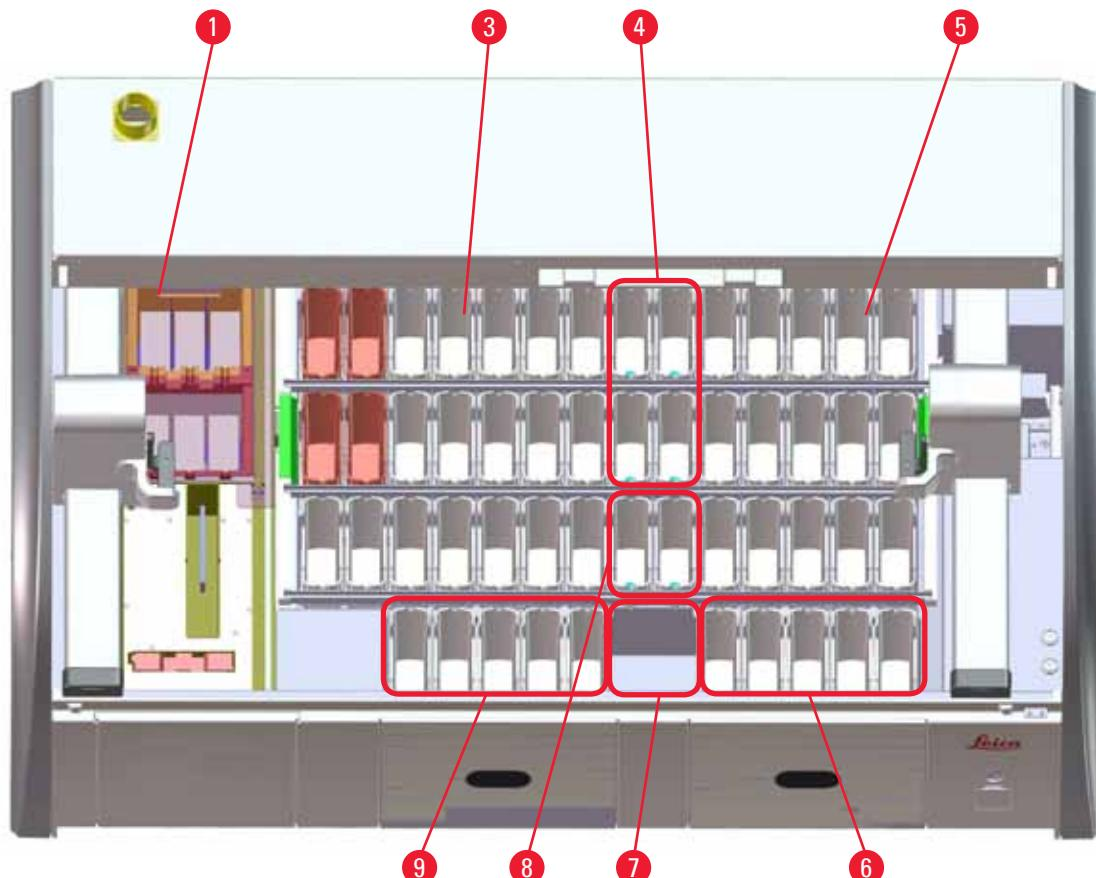

Fig. 65
- Duplicate stations have to be on the same side of the vessel field (→ "Fig. 40") (→ "Fig. 65"), otherwise the adjustment to the bath layout cannot be saved.
- (→ "Fig. 65") shows an overview of the various stations in the vessel field.